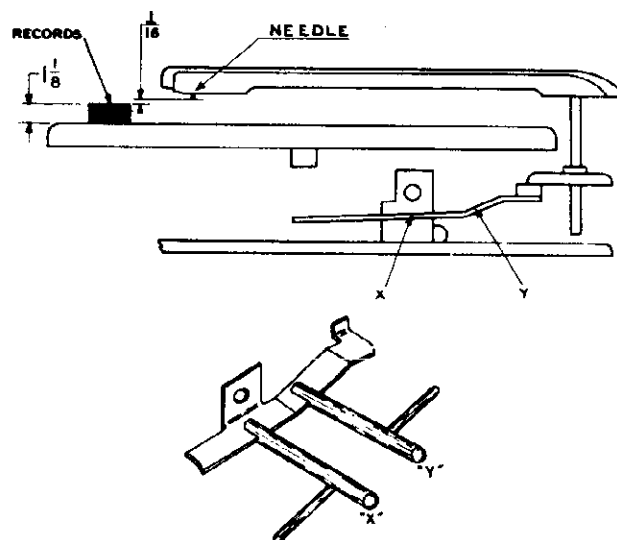

Fig. 4
The vertical movement of the pickup arm is controlled by the angle of the pickup arm raising lever (37 and Fig. 4). The needle should approach the top record of a full stack of 10" records on the turntable with approximately $\frac{1}{16}$ " clearance.
4. If the needle does not clear the top record or if it raises too high, adjust by bending the pickup arm raising lever (37) at points X and Y as indicated in Fig. 4.